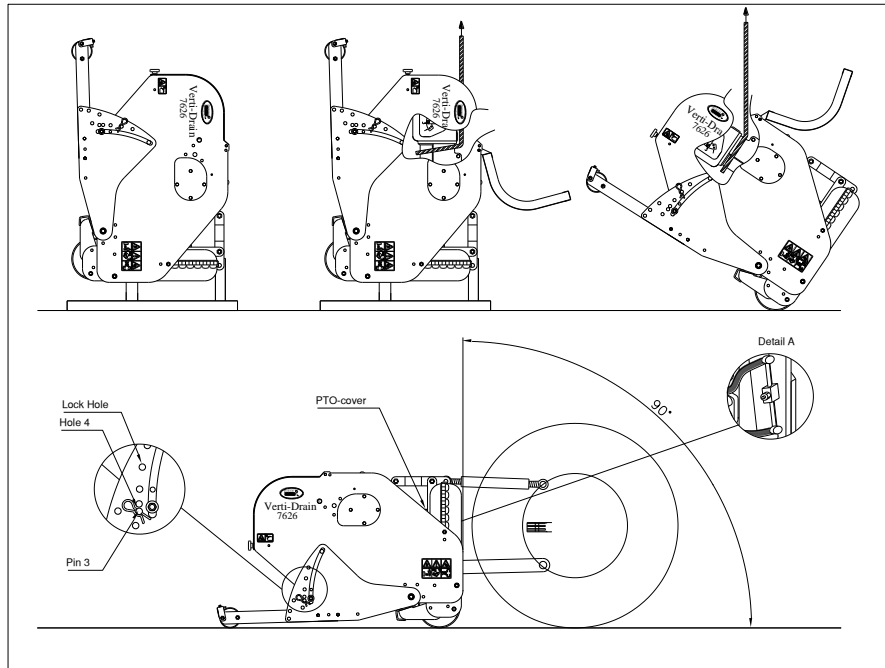
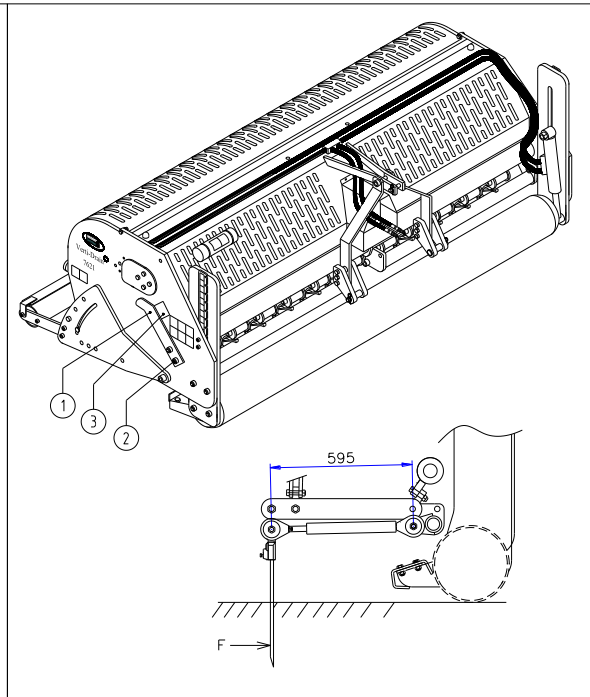

Fig. 8
Fig. 12
The machine is standing vertically on the pallet. To remove the pallet and lay the machine horizontally, carry out the following steps (see fig. 8):
All pins can simultaneously be adjusted with one handle (1), which is located on the side of the machine; see fig. 12. Lift the machine above the ground and loosen counter nuts (2) on both sides of the machine. Adjust the angle by turning the handle (1). The angle can be read on indicator (3). Then retighten counter nuts (2).
- @ At 90 degrees, the pins only go straight into the ground if the machine is correctly installed, see fig. 8. If this is not correct, force F can be produced, see fig. 12, which will damage the machine.
@ If the Verti-Drain® is not correctly attached behind the tractor, see fig. 8, various PTO shaft angles can cause vibrations in the driveline of the machine. These vibrations can damage the machine and the holes in the ground.